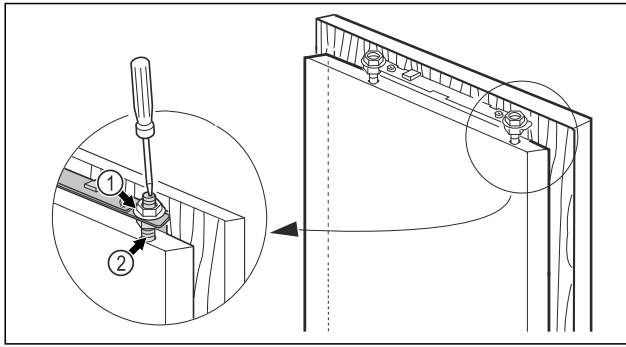

Fig. 49
- ▶ Tighten the lock nuts Fig. 49 (1) with a hexagon spanner 13, stabilising the adjusting bolt Fig. 49 (2) with a screwdriver.